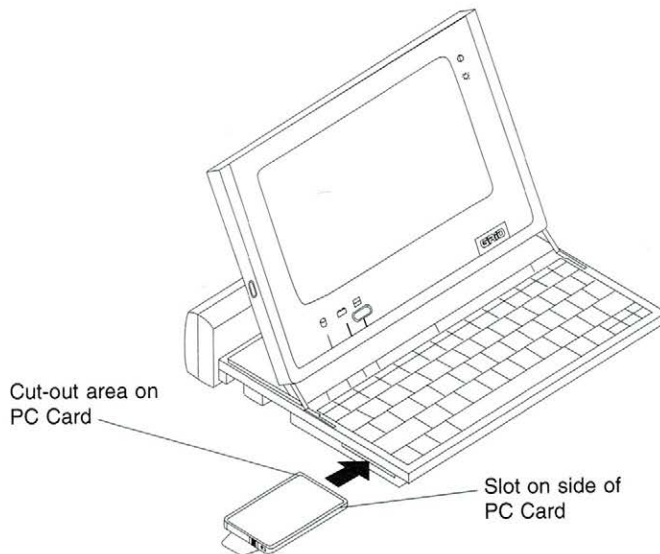

Figure 5-3. Insert the Storage PC Card
2. Hold the storage PC Card with the connector towards the computer. The corner with the slight cut-out area is toward the back of the computer; the slot in the side of the PC Card is toward the front of the computer. Slide the storage card into the storage card slot, as shown in Figure 5-3. Disregard any instructions on the card label.